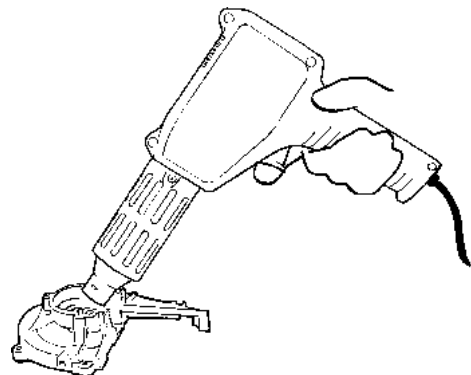

Figure 8.10 A heat gun can simplify bearing removal.
- ☛ If bearings are difficult to remove, the crankcase bearing bore can be expanded slightly by using a heat gun to heat the bearing boss area to approximately 100°C (212°F). See Figure 8.10.
Bearing installation is easiest if the crankcase bearing bore is first expanded slightly with a heat gun as shown in Figure 8.10.